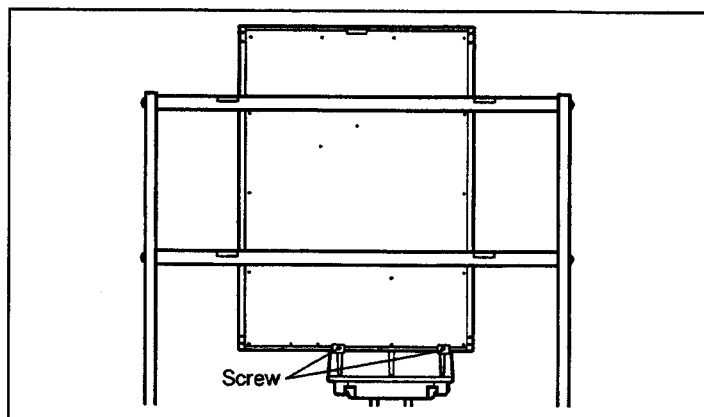

Fig. 5-8
- 11) Hold the printer, and remove 2 screws shown in Fig. 5-8.